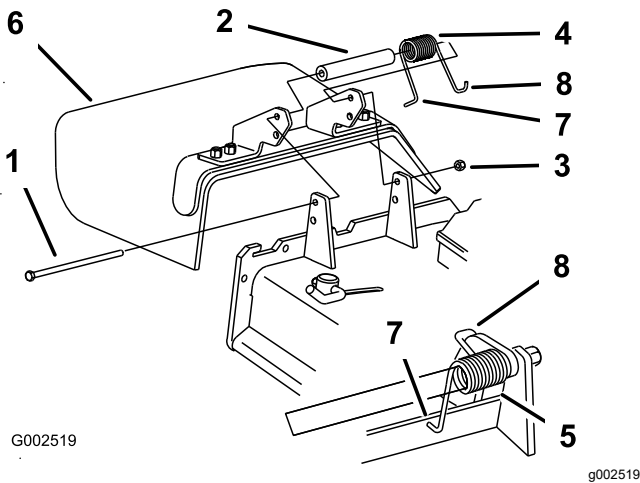

Figure 12
1. Remove the side-discharge chute from the mower deck (Figure 12).